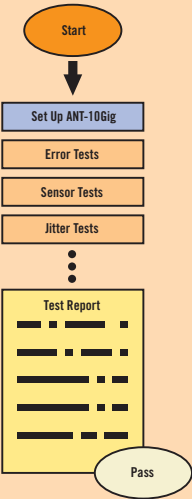

figure 24 Automatic test sequences with the ANT-10G
**Simplified test automation (figure 24) Computer aided test sequencer (CATS) and test case library**